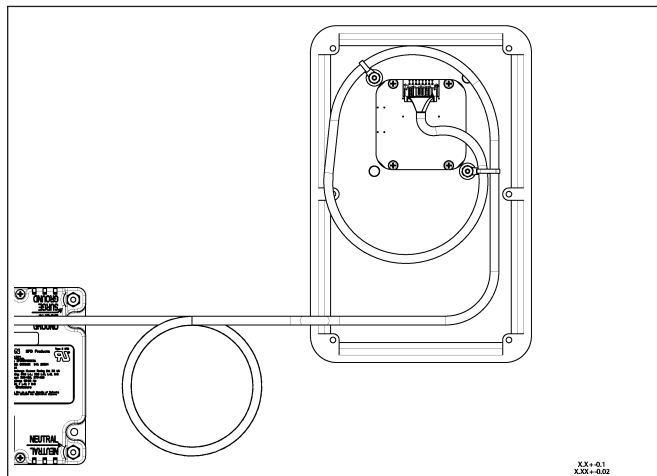

Figure 18. RDP cable to display connection
3. Connect the RDP cable to the display. Use tie wraps (already on the RDP) to secure the cable to the RDP. See Figure 18.